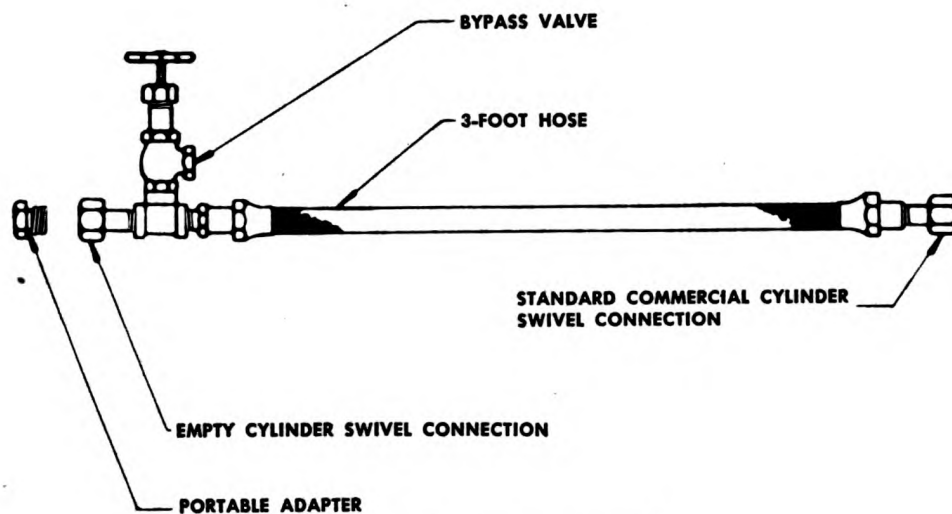

Figure 36. Bypass filling unit. (Stock No. 58-5410.500-500.)
c. **BYPASS FILLING UNIT.** The carbon dioxide bypass filling assembly (fig. 36) recharges portable cylinders without using pumping equipment. The filling assembly is connected between a standard commercial cylinder and the portable extinguisher being recharged. Transfer of carbon dioxide using the